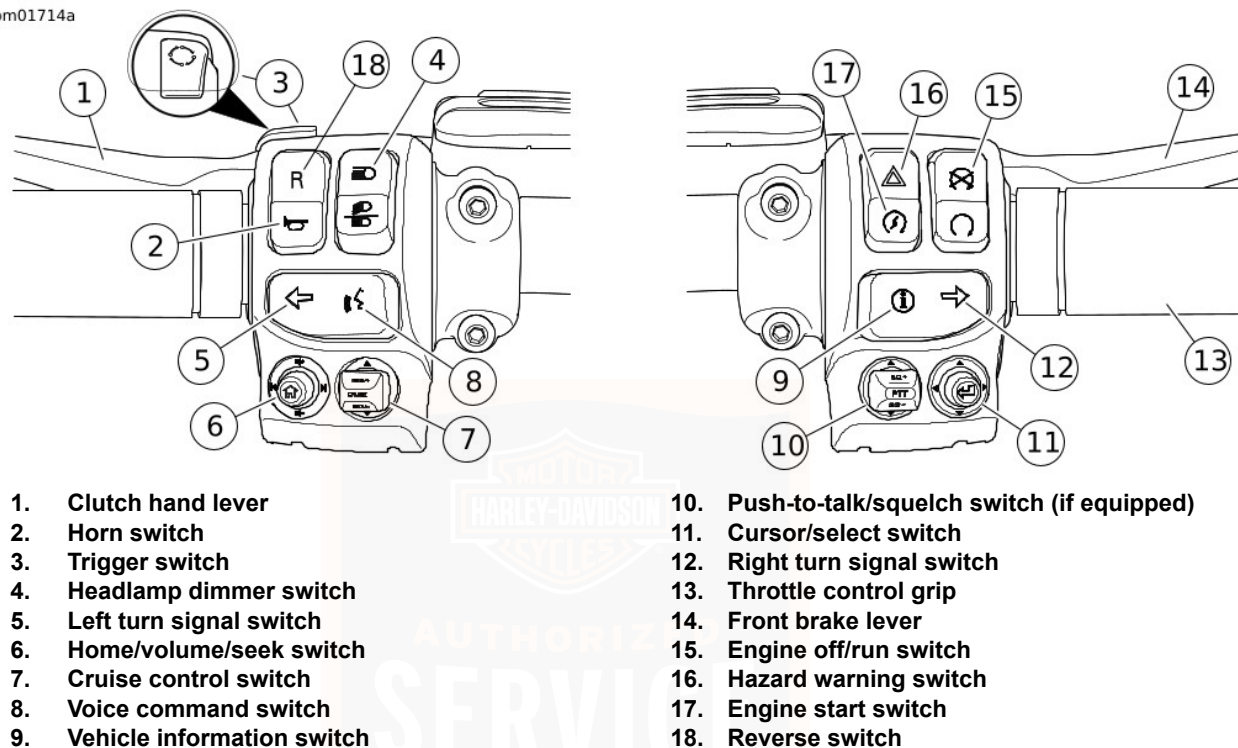

Figure 8. Hand Controls
See Figure 8. The engine OFF/RUN switch turns the engine power ON or OFF. The switch is located in the right hand controls.
See Figure 8. The engine start/hazard warning switch is located in the right hand controls.
See Figure 8. The horn is operated by pushing the HORN switch located in the left hand controls. The horn can be activated for up to 10 seconds at a time. If the HORN switch is held for a longer period, the horn will automatically deactivate.
See Figure 8. The headlamp dimmer switch is located in the left hand controls. The switch has three positions.
See Figure 8. The turn signal switches are in the left and right hand controls.
See Figure 8. The CRUISE/SET/RESUME switch automatically regulates the speed of the vehicle. See CONTROLS AND INDICATORS > CRUISE CONTROL (Page 52) for detailed operation.
See Figure 8. The Push-To-Talk (PTT)/Squelch (SQ+/SQ-) switch is used to operate the CB radio or rider/passenger intercom on equipped vehicles. See the BOOM! BOX OWNER'S MANUAL for complete instructions.
See Figure 8. The voice command switch activates the voice recognition features on equipped vehicles. With a headset connected, press the voice command switch. The radio shows a list of available commands. Speak the desired command into the headset microphone. See the BOOM! BOX OWNER'S MANUAL.
See Figure 8. On equipped vehicles, press the vehicle information switch to display the following items on the radio screen when the radio is turned on. See the BOOM! BOX OWNER'S MANUAL.
See Figure 8. The HOME/VOLUME/SEEK five-way switch operates radio features on equipped vehicles. See the BOOM! BOX OWNER'S MANUAL.
See Figure 8. The CURSOR/SELECT five-way switch operates radio features on equipped vehicles. See the BOOM! BOX OWNER'S MANUAL.
See Figure 8. The trigger switch is on the front of the left hand controls.
See Figure 8. The front brake lever is on the right handlebar and is operated with the fingers of the right hand. Squeeze the brake lever to actuate the front brakes. See CONTROLS AND INDICATORS > BRAKE SYSTEM (Page 63).
See Figure 8. The throttle control grip is on the right handlebar and is operated with the right hand.
See Figure 8. The clutch hand lever is on the left handlebar and is operated with the fingers of the left hand.
See Figure 8. The reverse control switch operates the electric reverse motor. The reverse enable indicator is lit when reverse operation is enabled.
1. See Figure 8. Press the CRUISE switch straight in to enable cruise control. The cruise control lamp turns orange to indicate that cruise control is enabled. See Figure 5.
See Figure 8. To resume the previous SET speed, press RESUME.